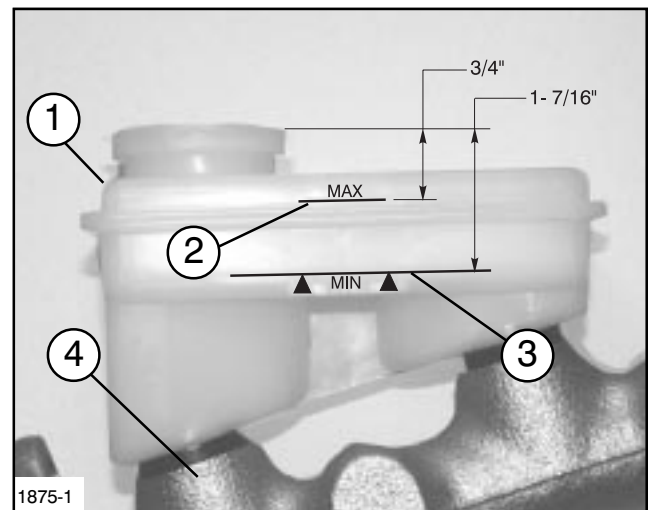

FIG. 8
2. Fluid level should be up to MAX line on reservoir. (See FIG. 8)